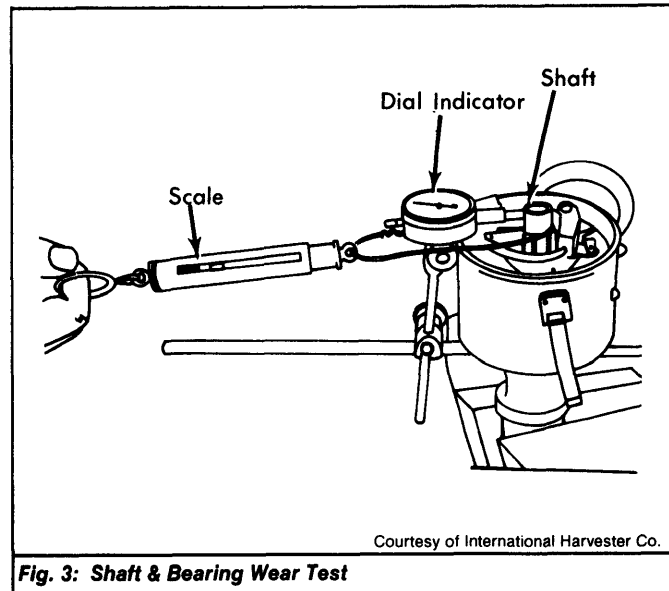

Fig. 3: Shaft & Bearing Wear Test
1) To check bushing wear, secure distributor in a vise and remove rotor and dielectric shield. Attach a dial indicator to housing with indicator plunger resting against trigger wheel. Secure wire loops as shown. See Fig. 3. If movement exceeds .006", replace distributor shaft bushings.